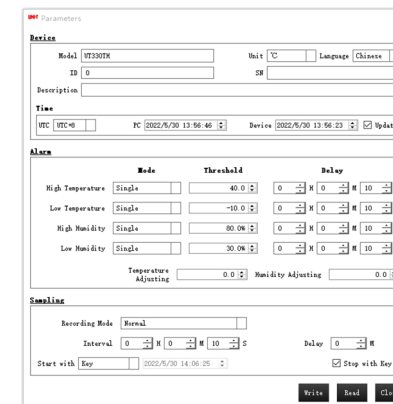

Figure 3 (Setting Interface of the PC Software)
- Insert the logger into USB port of PC, the main interface of logger will display “USB”. After the computer identifies the USB, open the software to set parameters and analyze the data. (Figure 3).